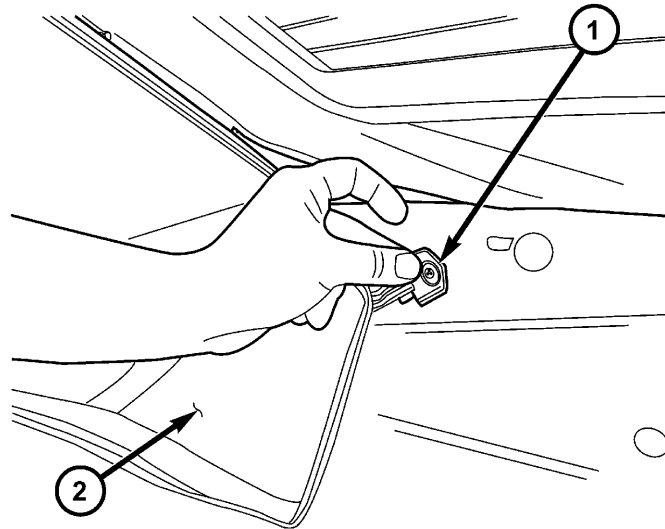

Fig. 1 HEADLINER ATTACHMENT
1. Remove the headliner strap by removing the screw from the carpet, then pull the headliner away from the terminal clip area, (Fig. 1).